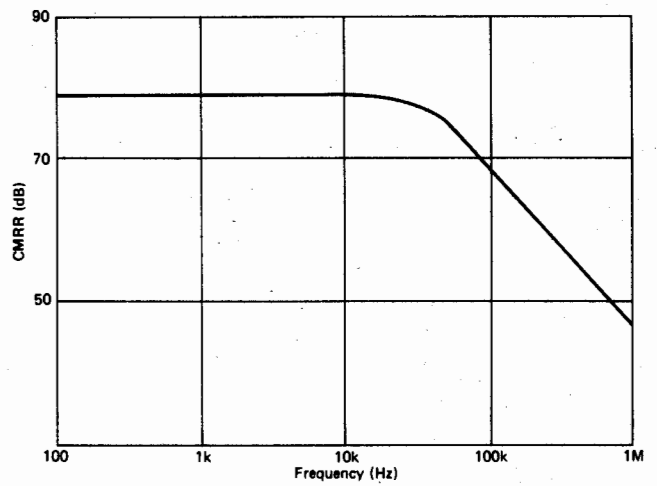

Figure 13. CMRR vs. Frequency
③ See Figure 13 for plot of CMRR vs. frequency.
④ 100% interim tested for "-83" version.
⑤ 100% final electrical tested for "-83" version.
⑥ Finned heat sink use recommended if long term short circuits can occur. Without finned heat sink, short-circuited duration should be limited to < 10s.
⑦ Specifications listed are for the 1437 only. At the time of this printing, the 1438 ($\pm 50mA$ guaranteed output), was still being characterized. Its DC characteristics (offset, bias, CMRR, etc.) will be the same as the 1437's. Its time and frequency response characteristics (slew rate, settling time, etc.) will be different. If a 1438 data sheet is not attached, please contact the factory for a complete specification.